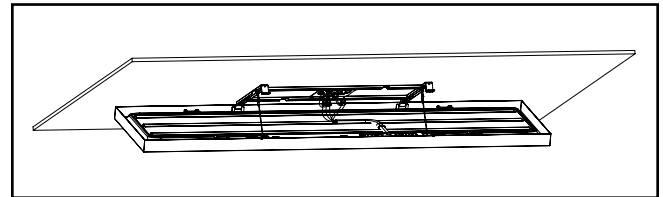

Figure 4.
- Connect the wires from the provided cord to the incoming power supply in the junction box: green to green (ground), white to white (neutral), black to black (hot), Pink and violet wires are provided to connect to a 0-10V dimmer. Push the connected wires into the junction box, See Fig.4.